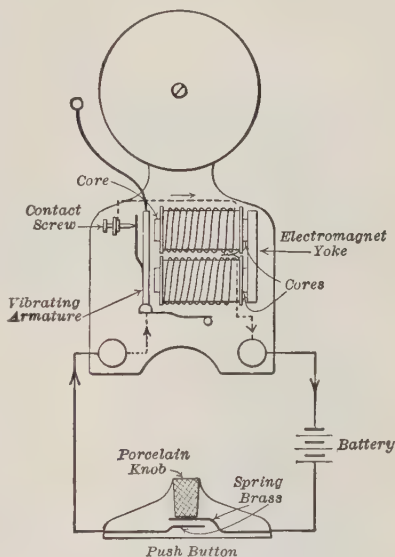

FIGURE 359.—ELECTRIC BELL.
**232. Electric Bell.** — This is one of the most familiar applications of the electromagnet. In the common jingle bell, a horseshoe electromagnet is used (Figure 359). The current enters the magnet from one of the binding posts of the bell, and passes around the magnet coils. The farther end of the magnet coil is connected to the contact screw. Opposite the poles of the electromagnet is a soft-iron armature, to which the hammer is attached.